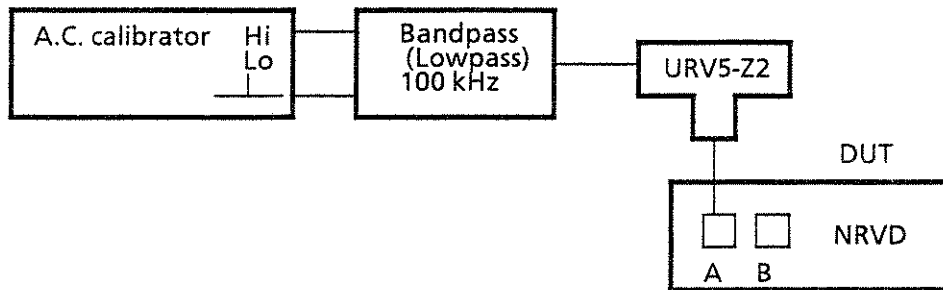

Fig. 5-2 Testing the A.C. measuring accuracy
A.C. measuring accuracy is checked by measuring the output voltages of an A.C. calibrator using the Insertion Unit URV5-Z2 (fig. 5-2). The noise voltage at the calibrator output (determined in broadband measurement) must not exceed 200  $\mu$ V; otherwise a lowpass filter or voltage divider is required.